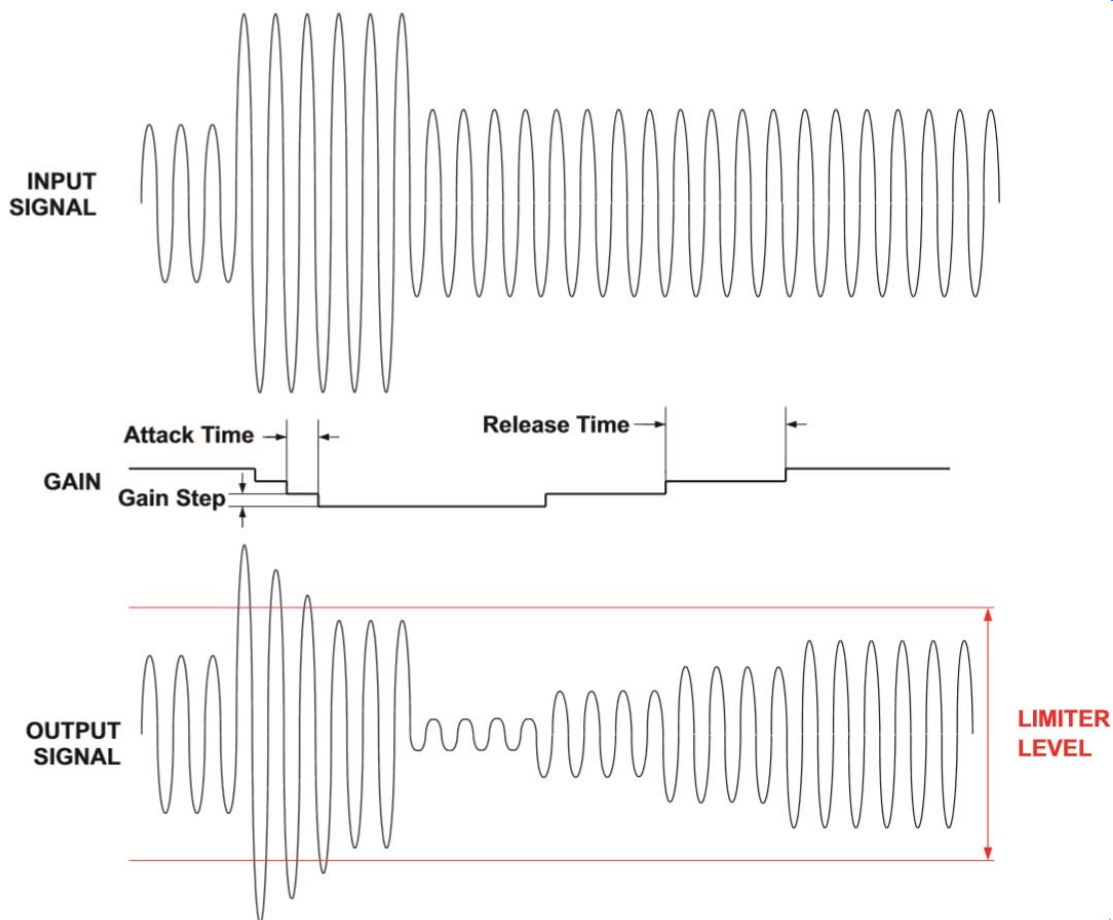

Fig. 1 Limiter Function
When Limiter function activates, the output music can be limited below the Limiter Level ( $V_{LIM\_L}$ ). If the output audio signal exceeds the Limiter Level, HT87(T) decreases amplifier gain by the rate of attack time (default value 10ms/dB), 0.25dB per step. HT878(T) increases the gain by the rate release time (default value 160ms/dB), 0.25 per step, once the output audio is below the limiter level. Fig. 1 Limiter Function shows this relationship.